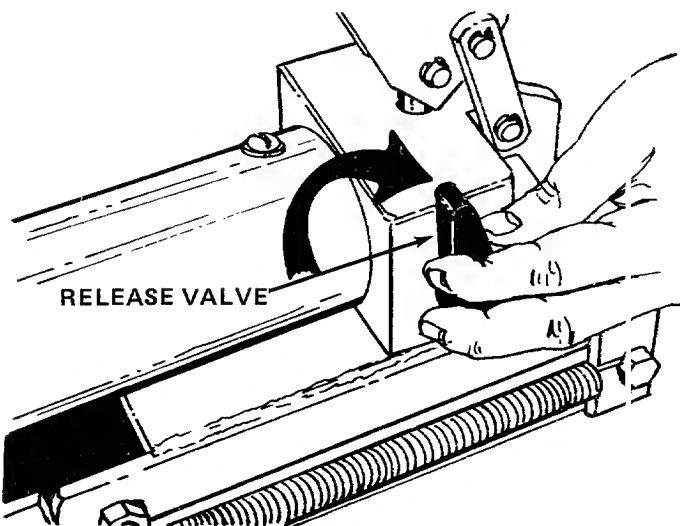

FIGURE 6
3. Pull the release valve up and back to lock. Then handle can be pumped to split logs. See figure 6.